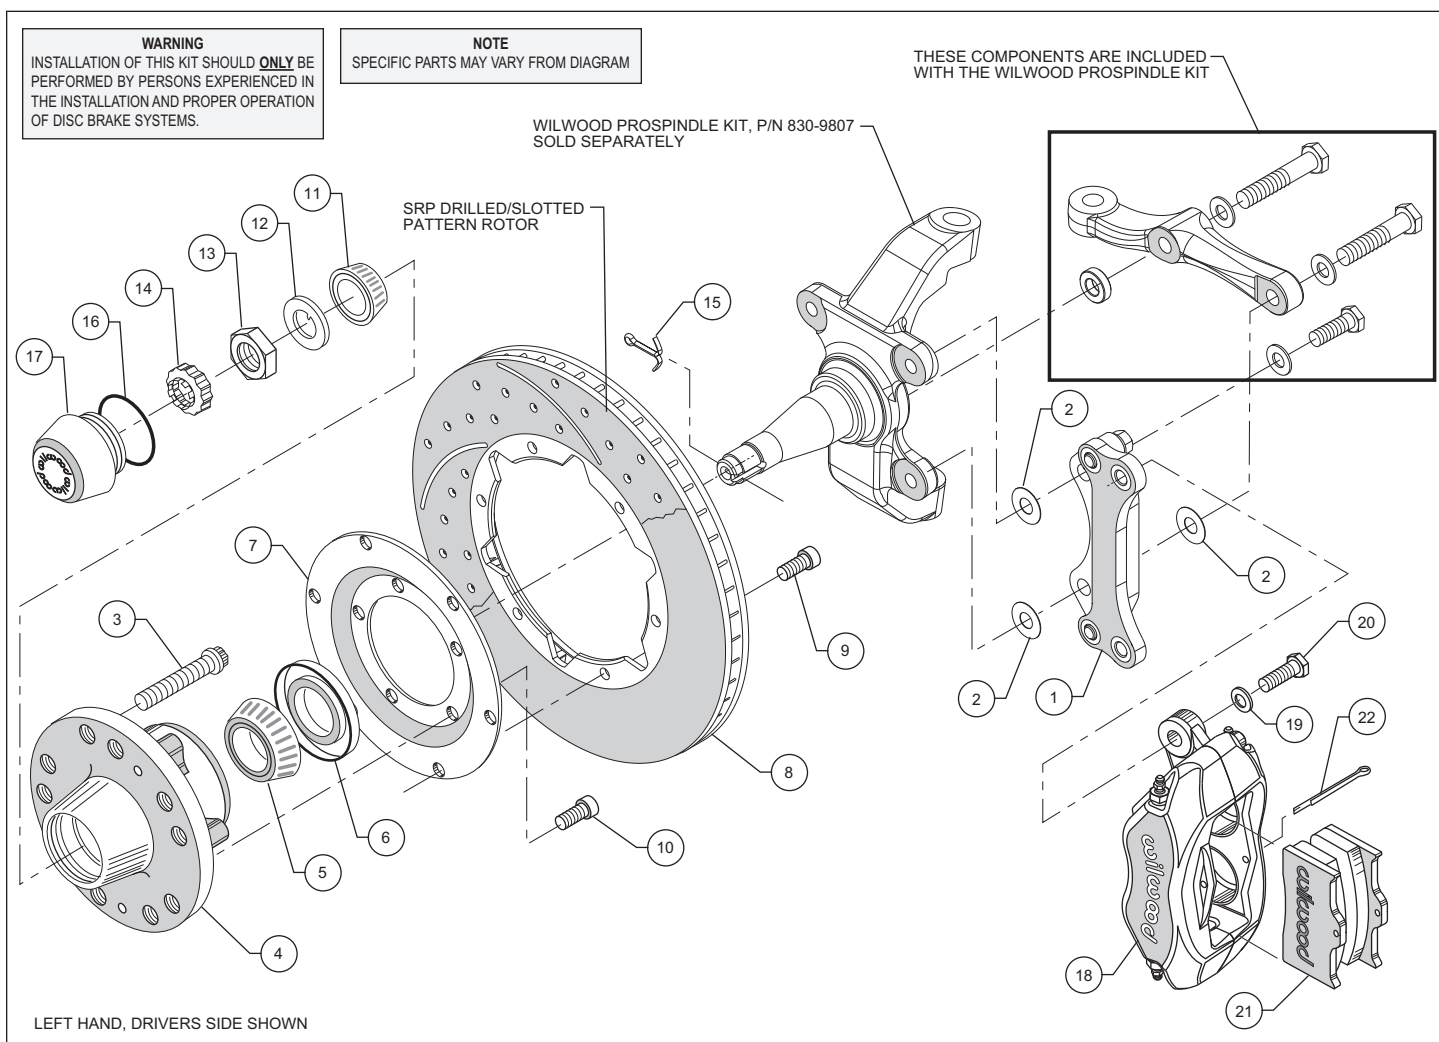
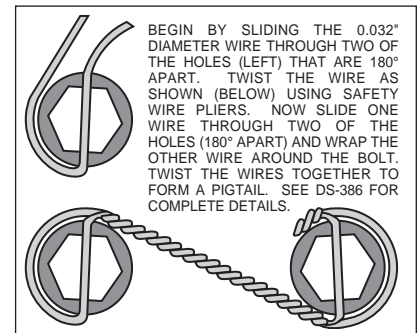

Figure 1. Typical Installation Configuration
Figure 3. Safety Wire Diagram
- Install wheel studs (3) into the hub (4). Torque to 77 ft-lb. **NOTE:** There are two lug patterns of five holes each in the hub (5 x 4.50 and 5 x 4.75). Make sure of the correct hole pattern for the wheel application before installing the studs into the hub.
- Attach rotor adapter plate (7) to rotor (8) using bolts (9) as per the configuration pictured in figure 1. Torque bolts (9) to 180 **in-lb**. Safety wire bolts (9) using standard 0.032 inch diameter stainless steel safety wire as shown in Figure 3. Please refer to Wilwood's data sheet DS-386 (available at www.wilwood.com/pdf/ds386.pdf) for complete safety wire installation instructions. **NOTE:** The large inside diameter side of the rotor (8) faces toward the rotor adapter plate (7) with the dished side of the rotor adapter plate (7) facing away from the rotor (8).
- Mount the adapter/rotor assembly (7 and 8) to the hub (4) using bolts (10). Torque bolts (10) to 22 ft-lb. Safety wire bolts (10).
- Pack the large inner bearing cone (5) with high temperature disc brake bearing grease (available from your local auto parts store) and install into the backside of the hub (4).
- Install the grease seal (6) by pressing into the backside of the hub (4).
- Pack the small outer bearing cone (11) with high temperature disc brake bearing grease and install into front of hub (4). Slide the hub assembly (4, 5, 6 and 8) with outer bearing cone (11) onto the spindle. Secure using spindle washer (12), adjusting nut (13) and nut retainer (14). secure to spindle using cotter pin (15). Adjust bearing using a 12" wrench to tighten the adjusting nut while turning the rotor. When the rotor binds slightly, all the bearing parts are seated properly. Back of the nut 1/6 to 1/4 of a turn or enough to allow 0.001 to 0.007 end play. Lock the nut with a new cotter pin. **WARNING:** Failure to back off the adjusting nut may cause the bearing to run hot and be damaged, which could cause the wheel to lock or come off during operation, creating a risk of serious bodily harm.
- Install the o-ring (16) and the dust cap (17) onto the hub (4). Friction created by the o-ring (16) on the dust cap (17) keeps it from unscrewing on its own.
- NOTE:** Please reference the caution statement at the beginning of the assembly instructions. With the bleed screws pointing up, mount the caliper (18) onto the caliper bracket (1) using washers (19), and bolts (20). Finger tighten. View the rotor (8) through the top opening of the caliper (18). The rotor (8) should be aligned in the center of the caliper (18). If not, adjust the caliper mounting bracket (1) by using 0.016 inch thick shims (2) placed between the caliper mounting bracket (1) and the spindle, or between the spindle and the steering arm, whichever is applicable to gain the proper caliper/rotor alignment. Both the top and bottom of bracket must have the same thickness of shims between bracket and spindle. Finger tighten and recheck alignment. If everything is properly aligned, Apply red *Loctite*® 271 to the ProSpindle bolt threads and torque to 47 ft-lb. Then apply red *Loctite*® 271 to caliper mounting bolt threads (20) and torque to 30 ft-lb. Safety wire caliper bolts (20).
- Install the disc brake pads (21) and secure using cotter pin (22).